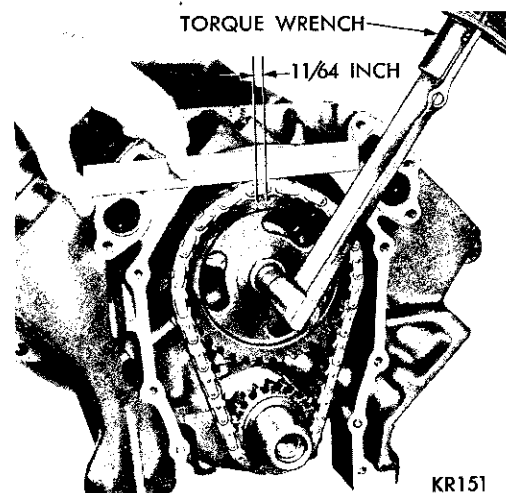

Fig. 20—Measuring Chain Stretch
(1) Place a scale next to the timing chain so that any movement of the chain may be measured.
(2) Place a torque wrench and socket over the camshaft sprocket attaching bolt and apply torque in the direction of crankshaft rotation to take up the slack; 30 foot-pounds torque (with cylinder heads installed) or 15 foot-pounds torque (cylinder heads removed).
(3) Holding a scale with dimensional reading even with edge of a chain link, apply torque in the reverse direction 30 foot-pounds (with cylinder heads installed) or 15 foot-pounds (cylinder heads removed), and note the amount of chain movement, as shown in Figure 20.
(4) Install a new timing chain, if its movement exceeds $\frac{11}{64}$ inch.